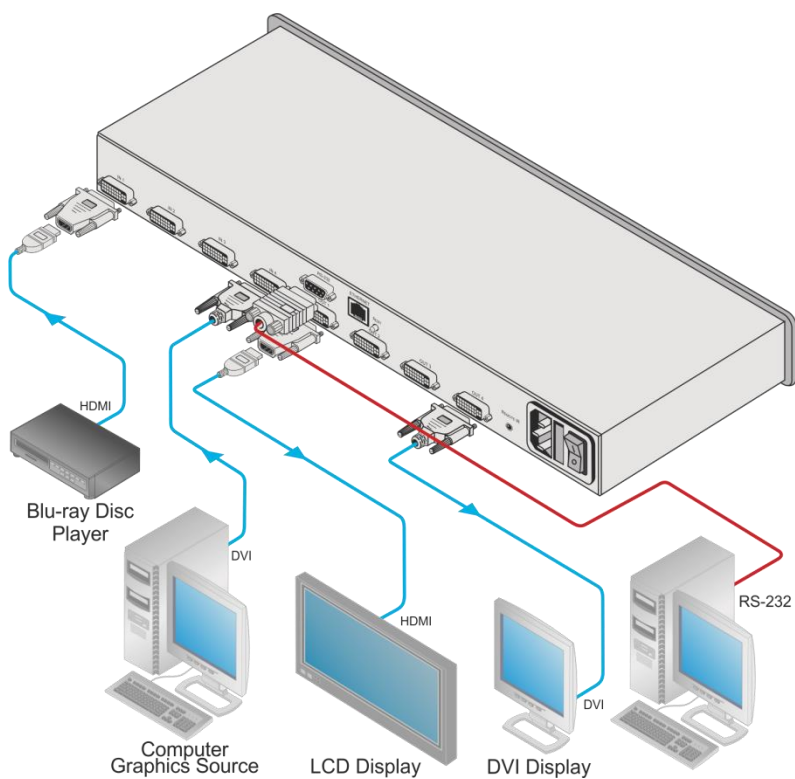

Figure 3: Connecting to the VS-44HDCP Rear Panel
To connect the VS-44HDCP as illustrated in the example in Figure 3:
4. Connect the power cord (not shown in Figure 3).